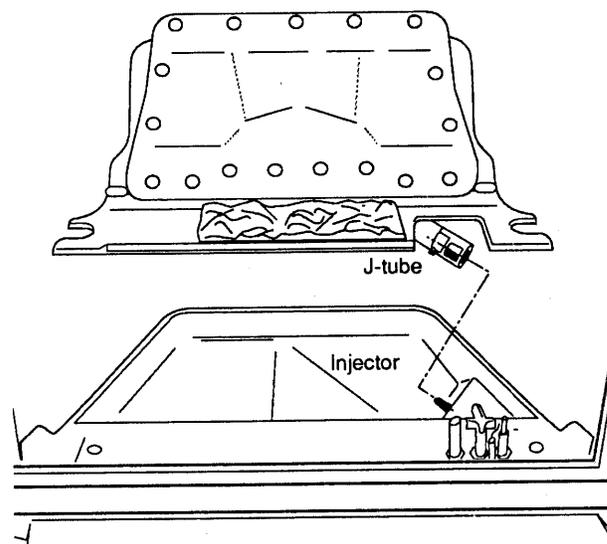

Figure 43. Align the J-tube with the injector.
Step 4. Set the burner back into the firebox taking care to ensure that the end of the J-tube fully engages and aligns with the injector, Fig. 43.